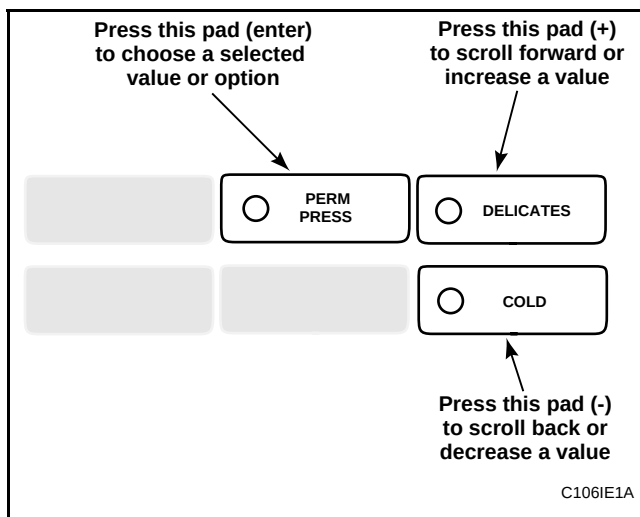

Figure 30
5. Press the DELICATES (+) or the COLD (–) keypad to increase or decrease the current number of coins displayed in the VFD to the desired number of coins. See **Figure 30**.